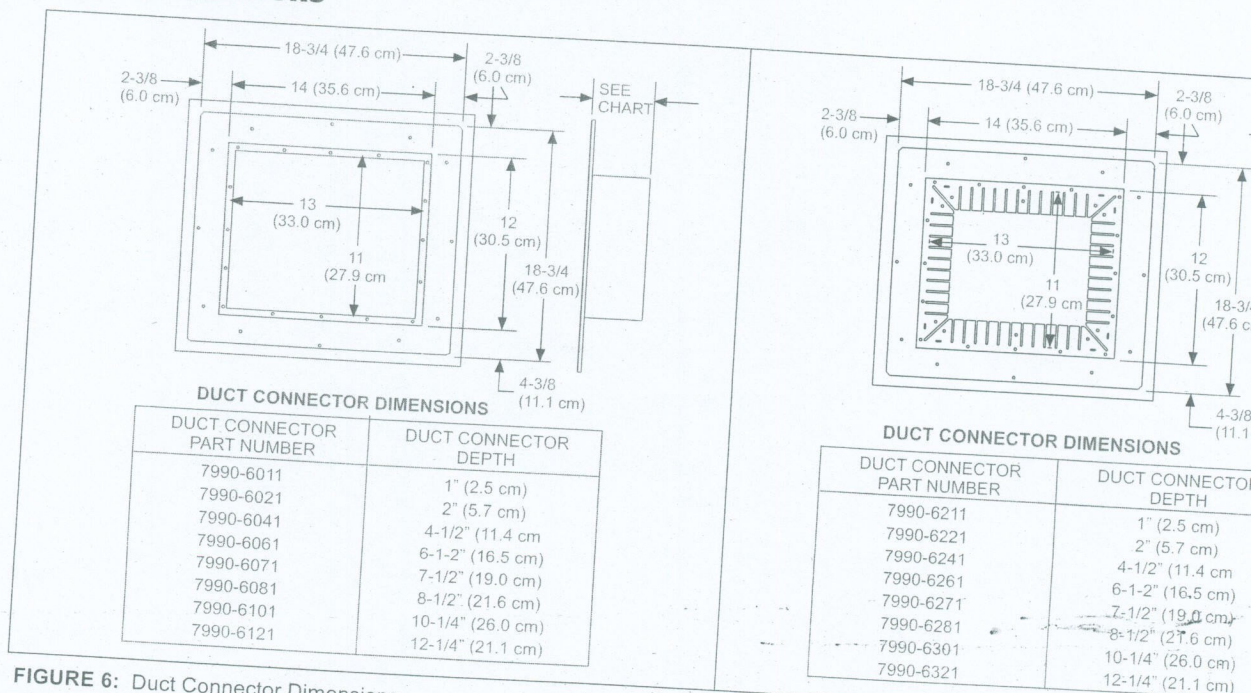

FIGURE 6: Duct Connector Dimensions
2. Determine the depth of the floor cavity from the surface of the floor to the top of the supply air duct and select the appropriate duct connector from the chart. See Figures 6 and 8.